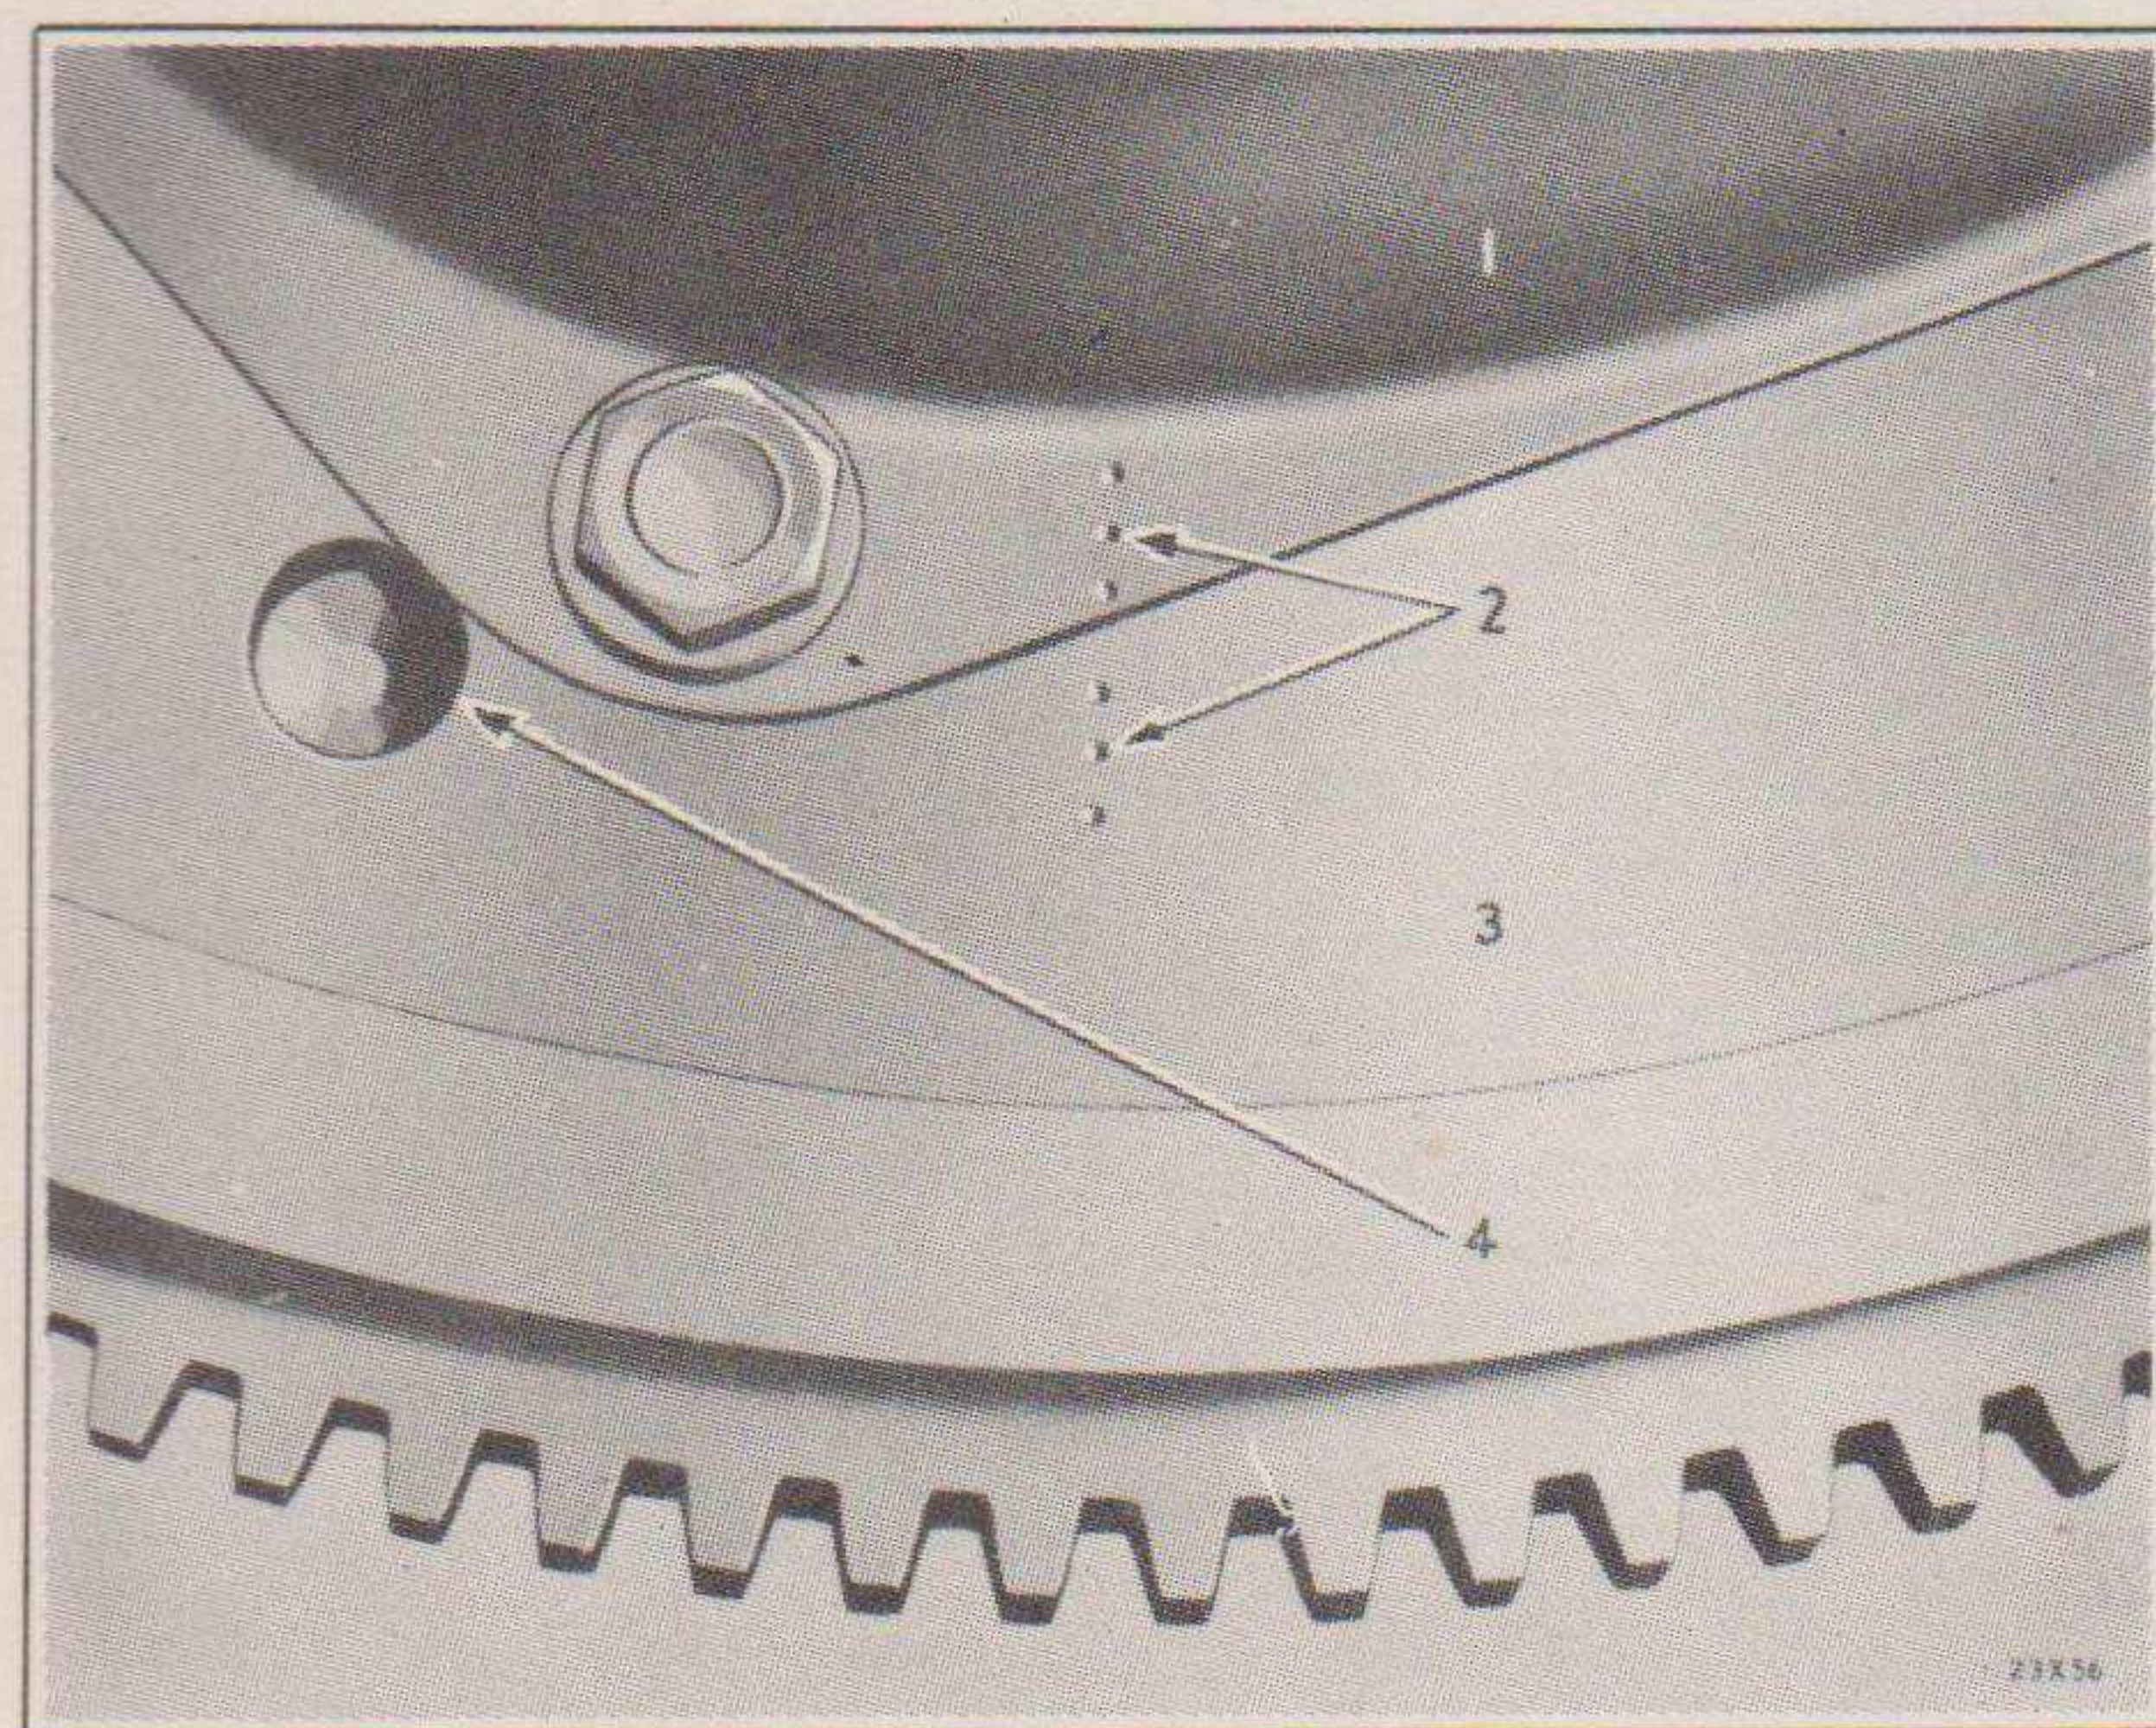

Fig. 86—Punch Marks on Clutch Cover and Flywheel
- (e) Mark the clutch cover and flywheel (2, Fig. 86) and remove the bolts which hold the clutch cover to the flywheel.